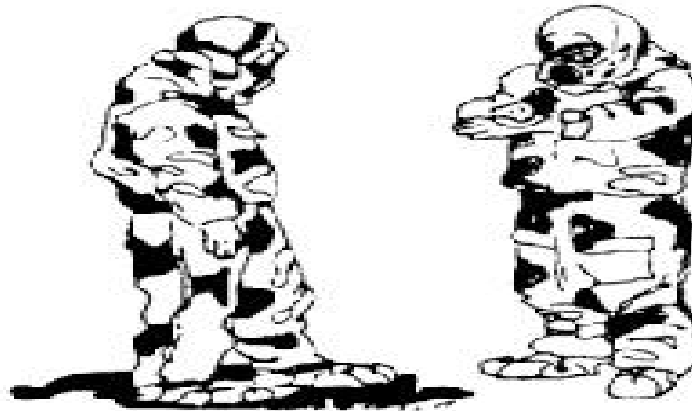

Figure E-102. Decontaminating the gloves.
a. Have your buddy decontaminate his or her chemical protective gloves (figure E-102) with the personal decontamination kit.